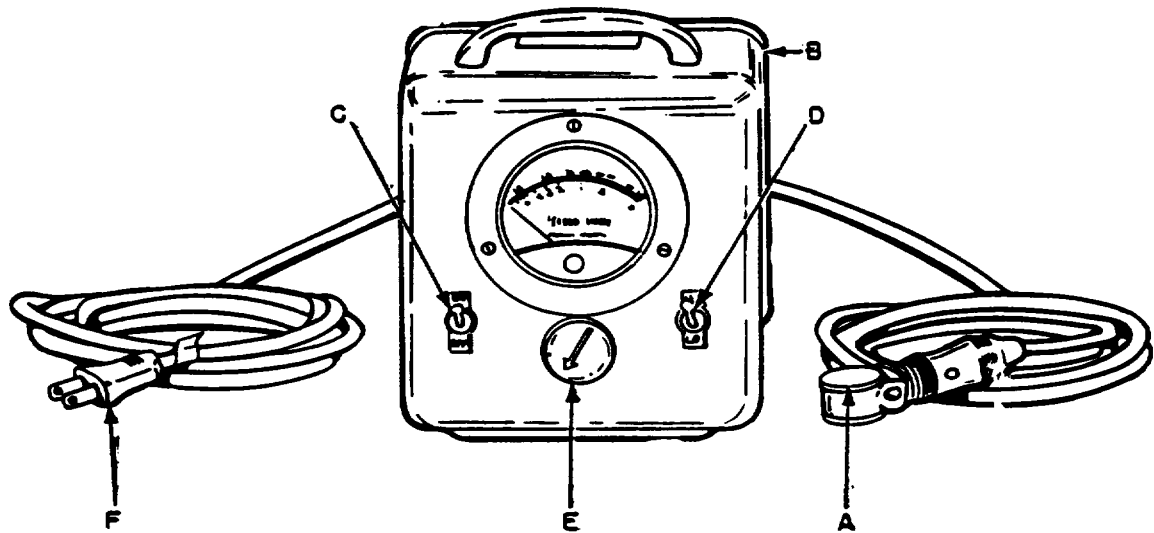
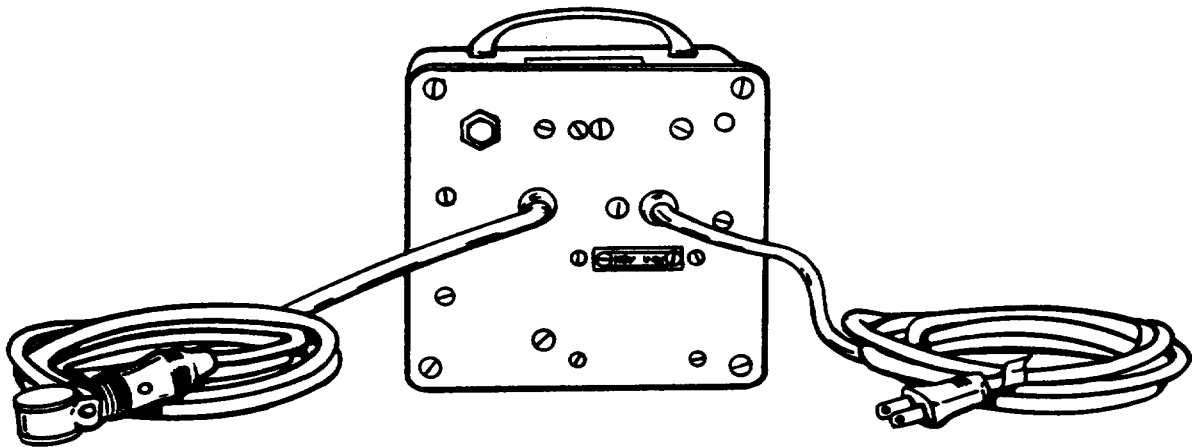

Fig. 2 Thickness gage
Fig. 3 Thickness gage, rear view
The gage consists of a gage head (A) Fig. 2, and an indicating unit (B). The gage-head lead and the po4r-supply lad are permanently attached to the back cover of the indicating unit - shown in Fig 3. Typical internal connections of the indicating units are
A line switch (C), Fig 2, is provided in the input circuit of the indicating unit. Two scales are usually furnished on the indicating instrument; a scale-selector switch (D) is provided to adapt the instrument for either of its two ranges. The switch is marked HI for the upper scale, covering the high range, and LO for the lower scale, covering the low range. It is important that the selector switch be turned to the proper scale range for the thickness to be measured. When only one scale is furnished on the indicating instru-
1. Connect the plug (F) Fig. 2, to a power supply in accordance with the voltage and frequency rating on the nameplate.
2. Turn switch (C) to ON. This should be done at least 15 minutes before using the gage if accurate results are to be obtained, or preferably, the gage can be left connected at all times (The total power required is approximately 3 watts. No harm will result if it is connected continuously to the power supply.)
7. Adjust rheostat (E) until the instrument pointer indicates the thickness marked on the standard. The gage can now be used to measure thickness within  $\pm 50\%$  of the set point.